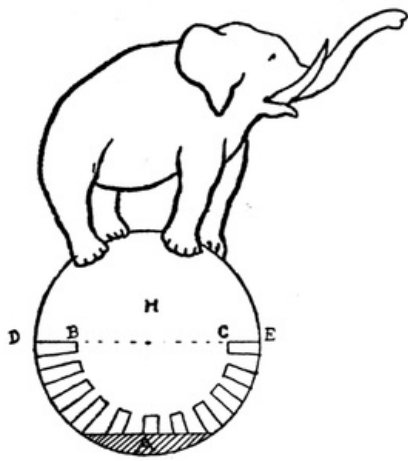

FIG. 411
**A Rocking Elephant.** On a piece of cardboard draw a circle 1 1/4 inches in radius; on this draw an elephant as in Fig. 411. Colour the ball red and the elephant grey (both sides must be coloured) and cut out. Cut out a piece of cartridge paper (Fig. 412), length equal to half the circumference of the circle in Fig. 411, width, 1 1/2 inches. Fold in half along D E, cut out D B C E, as in diagram, the shaded portions being cut away. Gum B D C E to disc H as in Fig. 411, so that D F E G forms a rocker; make a similar rocker for the other side. Two pieces of lead (A in Fig. 411) are cut out and glued on each side of the disc at the bottom, as in the figure. The lead must have paper suitably coloured pasted over it. The elephant will swing up and down at the slightest touch. Instead of an elephant a clown can be drawn on the ball.